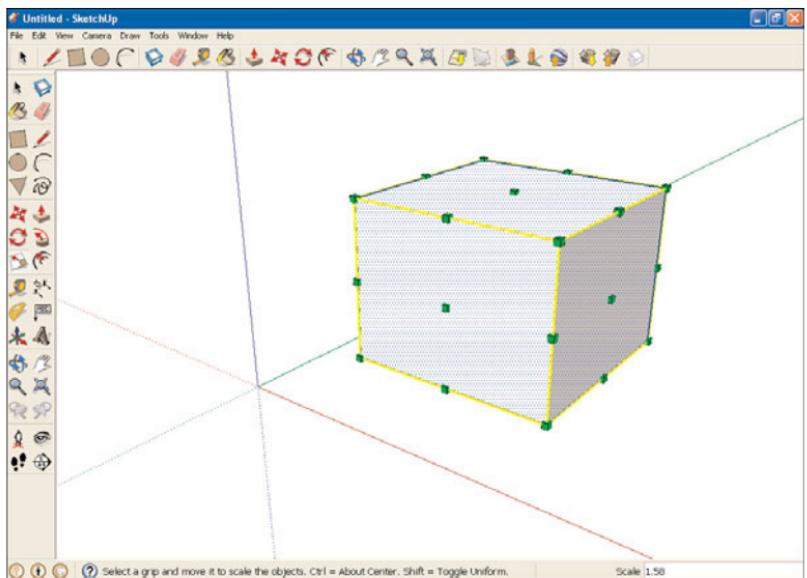

FIGURE 8.13 A newly resized cube.
12. Release the mouse button. When you do, the cube is fixed in place at its new size, as shown in Figure 8.13.